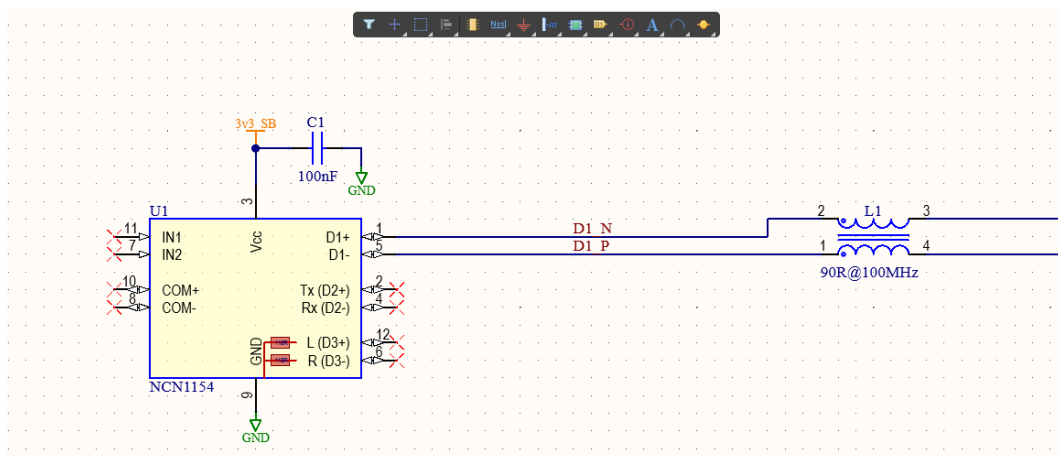

Figure 2. Differential Signals
15. Repeat Steps 12 - 14 to place net label D1\_P. Final placement of net labels should look like Figure 2.